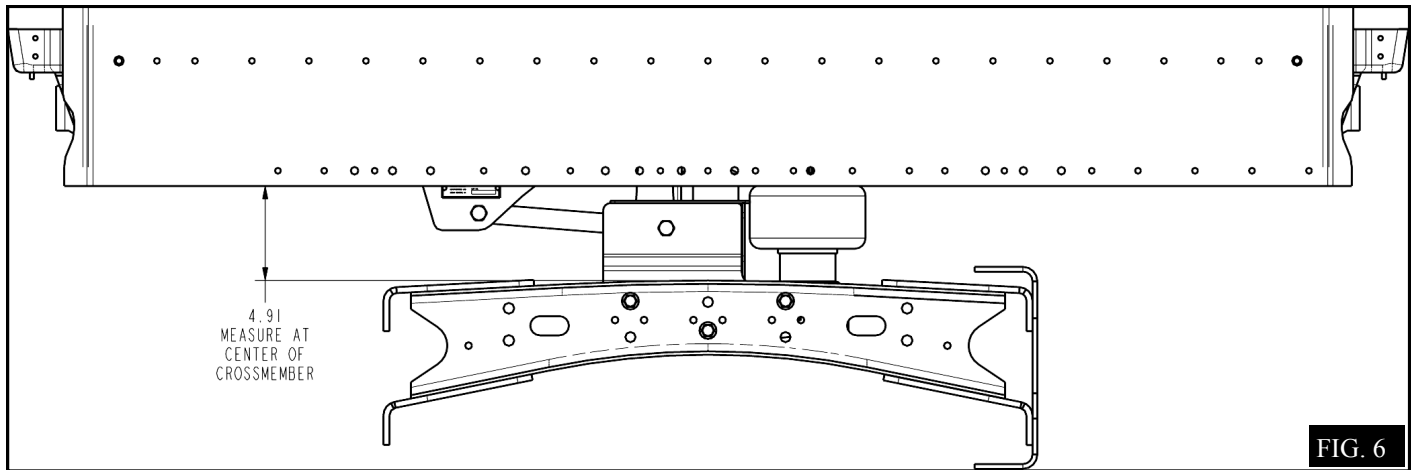

FIG. 6
5.5.2 For the cab to set level with the frame, the nominal dimension is 4.91" (see Fig. 6).